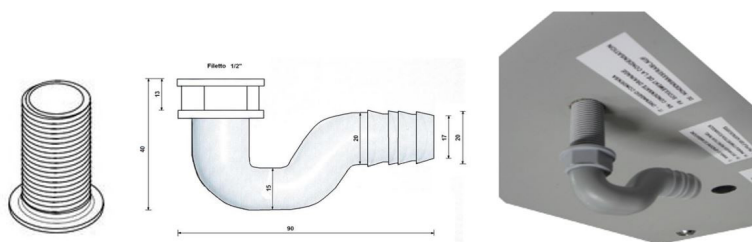
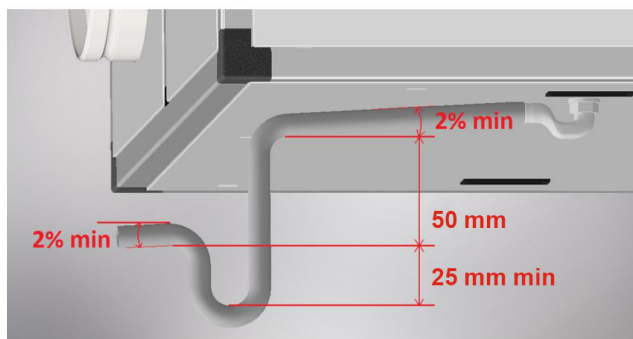

Fig. 2 - Drawing of condensation drain kit and picture of mounting on the unit
Fig. 3 - Height of condensation drain siphon (50 mm + 25 mm + pipe Ø)
- Install a suitable condensation drain siphon as close to the unit as possible: a small siphon is provided (see Figure 2), which has more of a fitting function than a siphon in itself. Actually, in order to avoid the suction of air and therefore allow the correct discharge of condensation, it is necessary to install/build a siphon with a minimum height as indicated in Figure 3; the minimum height (H) is calculated taking into account the standard working conditions of the unit, while the optimal height is based on the total pressure of the fan (therefore allowing a correct condensation drain in all conditions).